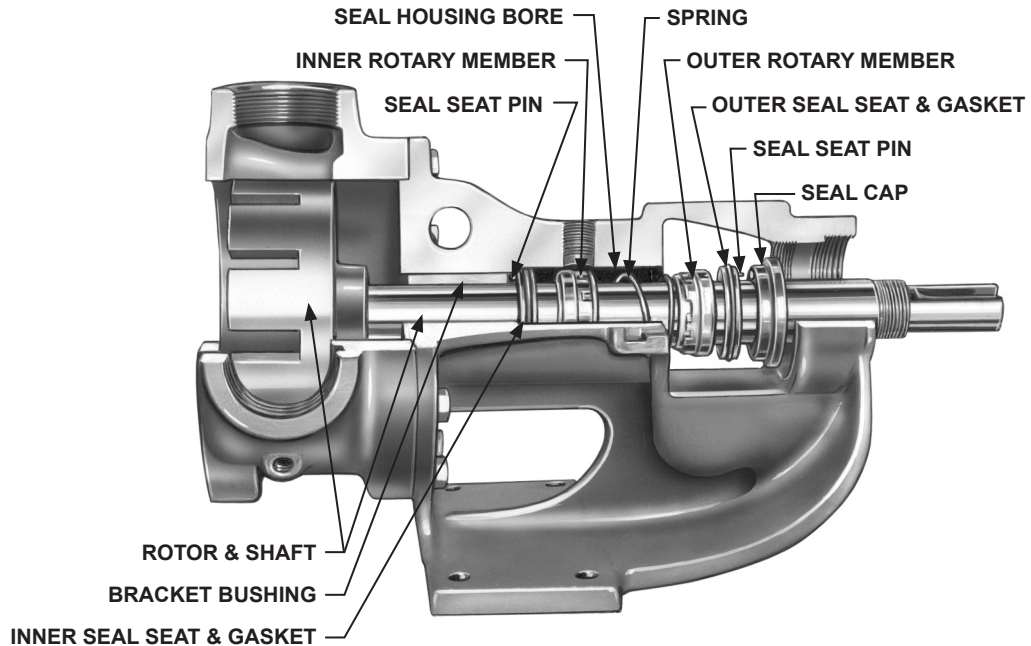

FIGURE 11
See figure 11. The mechanical seal consists of five basic parts. They are: inner and outer seal seats with O-ring gaskets; inner and outer rotary members; and spring. When pump is running, the seal cap and inner and outer seal seats with O-ring gaskets remain stationary in the bracket seal housing bore; the inner and outer rotary members turn with the shaft.
1. Installing a new seal: The seal is simple to install and good performance will result if care is taken in installation, see figure 11, page 9 for parts identification.
9. Clean and oil the I.D. of the inner rotary member, place on shaft and slide over the tapered installation sleeve into position against the inner seal seat. Push against the rubber tail section of the bellows with a sleeve or smooth piece of pipe having an inside diameter no more than $\frac{1}{32}$ inch larger than the shaft diameter and a wall thickness of at least $\frac{1}{8}$ inch. Be sure to install correct end against seal seat, see figure 11, page 9. Be sure carbon face does not fall out of the rotary member.
12. Coat the inside diameter of the outer rotary member with light Refrigeration Oil. Place it on the shaft and slide over the tapered installation sleeve until it engages the spring. Be sure to install the correct end towards the spring, see figure 11, page 9.